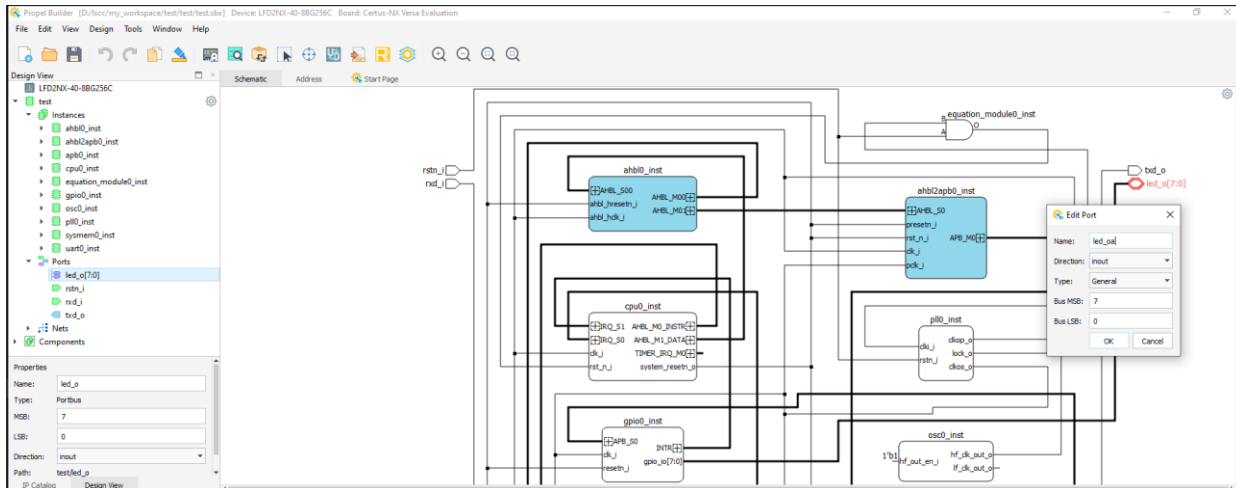

Figure 2.101. Port Edit Dialog
- h. (Optional) Double click on the Port/Portbus in schematic view, the port edit dialog opens (Figure 2.101).